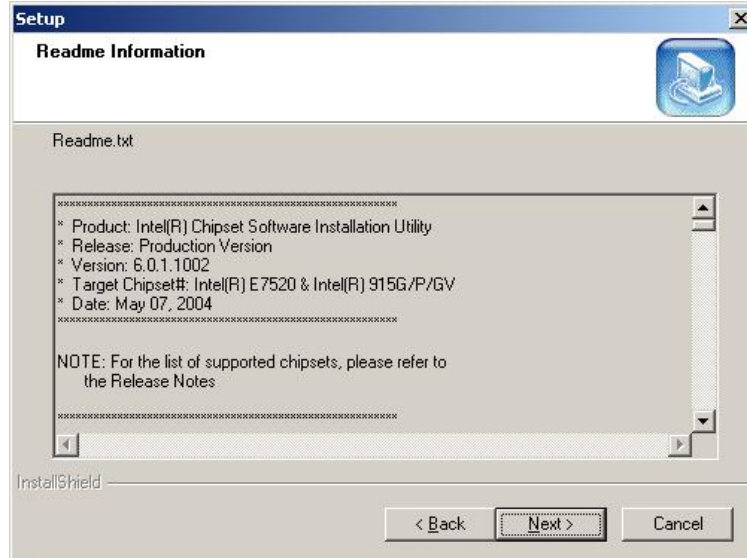

Figure 6-4: Readme Information
Step 5: Agree to the license terms by clicking “YES”. The “Readme” in Figure 6-4 appears.